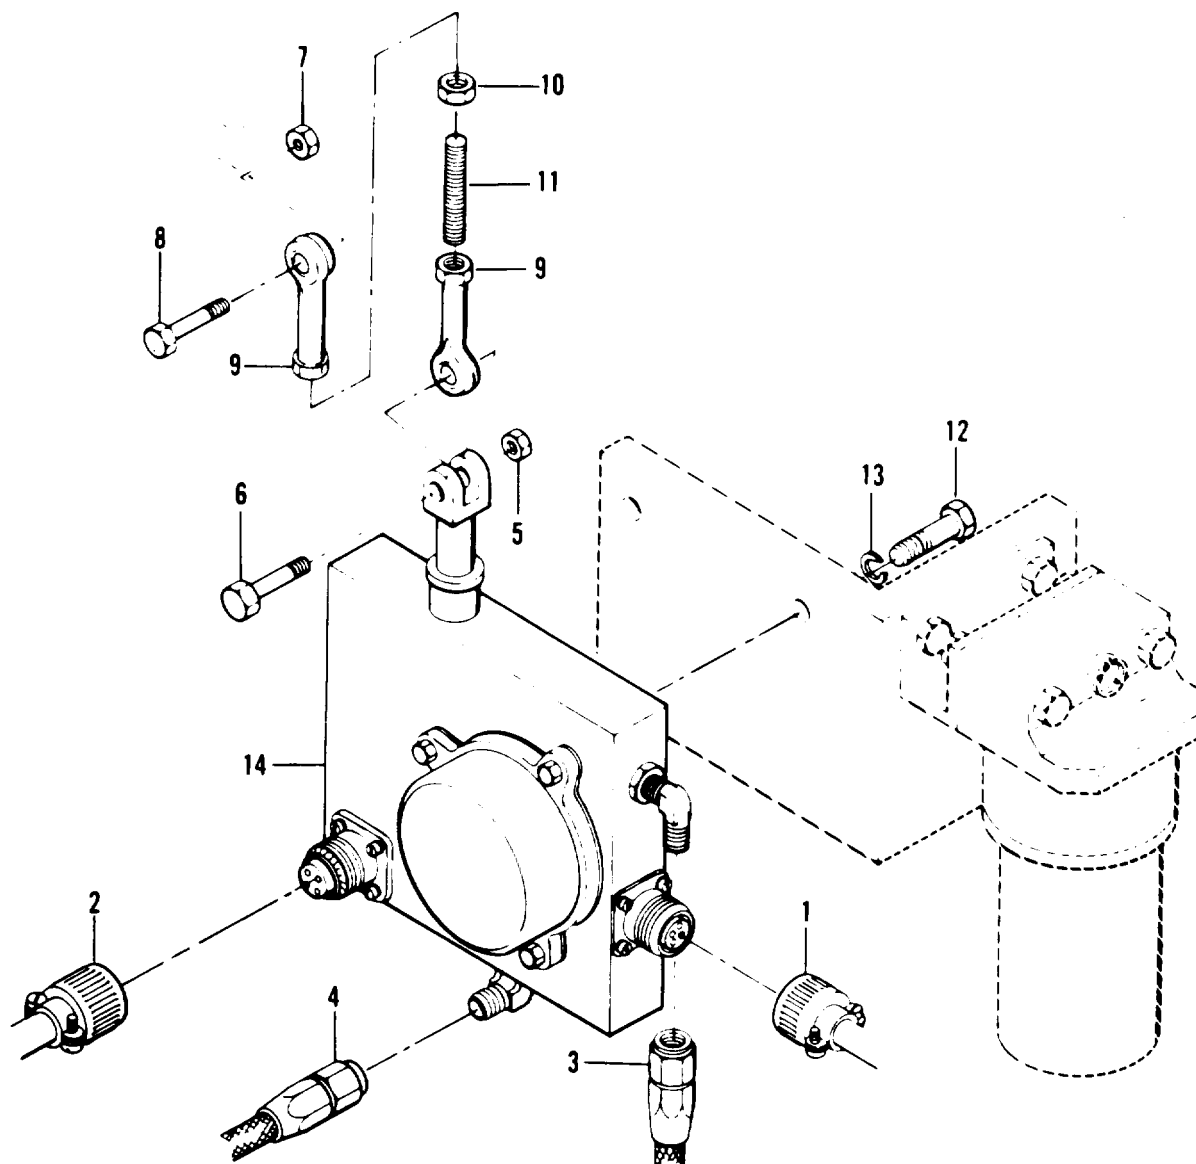

Figure 3-36. Hydraulic Actuator Unit, Removal and Installation
- (1) Refer to the Operator and Unit Maintenance Manual and drain the hydraulic tank.
- (2) Disconnect electrical connectors (1 and 2, figure 3-36) and hydraulic lines (3 and 4).
- (3) Remove nut (5) and bolt (6).
- (4) Do not remove nut (7), screw (8), rod ends (9), locknut (10), and threaded rod (11) unless inspection reveals damage.
- (5) Remove bolts (12) and lockwashers (13) to remove actuator unit (14).